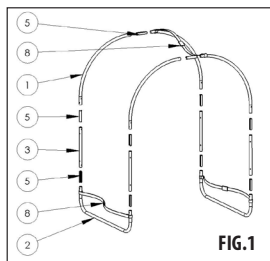

FIG.1
- 1) Assembling the heating system support frame from particular tubes and couplings (**FIG. 1**). IN THE COURSE OF FRAME ERECTION THE STRAPS WITH BUCKLES (8) HAVE TO BE PUT ON. THE LOWER PAIR OF STRAPS IS USED FOR FIXING THE SOLAR PANEL, WHILE THE UPPER STRAP PREVENTS THE UPPER FRAME PART FROM STRETCHING OUT AND WILL BE HIDDEN BELOW THE PANEL.